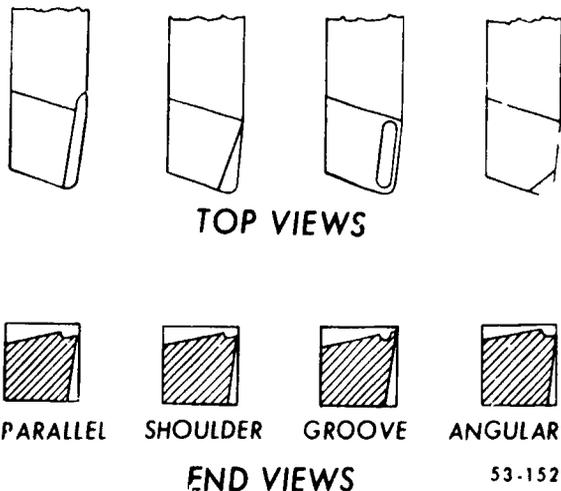

Figure 17. Chip breakers.
2-13. *Chip breakers.* Chip breakers are indentations on the top surface of the tool that prevent the formation of long and dangerous chips. Broken or short chips occupy less space, reduce the amount of heat transferred from the chips to the tool, and permit a better flow of coolant to the cutting edge. Figure 17 shows some of the various types of chip breakers. You usually grind chip breakers only on roughing tools.
(6) If you desire to grind a chip breaker, such as the angular chip breaker shown in figure 17, do it now. Dress the grinding wheel if the corner of the wheel is slightly rounded.